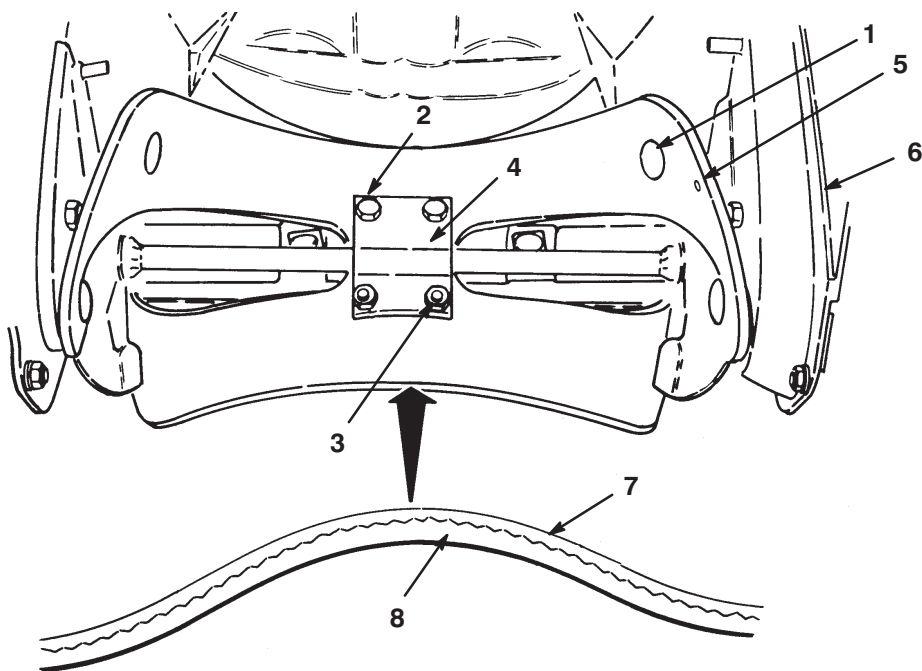

Figure 9
4. Remove four torx screws, two bolts, and six locknuts that secure the one of the rotor blades to the rotor shaft assembly (Fig. 9).
5. Slide the old rotor blade out from between the blade supports (Fig. 9).
6. Examine a new rotor blade edge for the difference in layer thickness (Fig. 9).
Note: Install the rotor blades with the thick layer on the **inside** of the curve. (Fig. 9). If you do not install the blades properly, the blades will be out of balance and cause the snowthrower to “hop” or “bounce.”
9. Position the screw heads on the thick layer side of the rotor blade (Fig. 9).
10. Curve the rotor blade and secure it with the remaining four torx screws and locknuts, positioning the screw heads on the thick layer side of the rotor blade (Fig. 9).